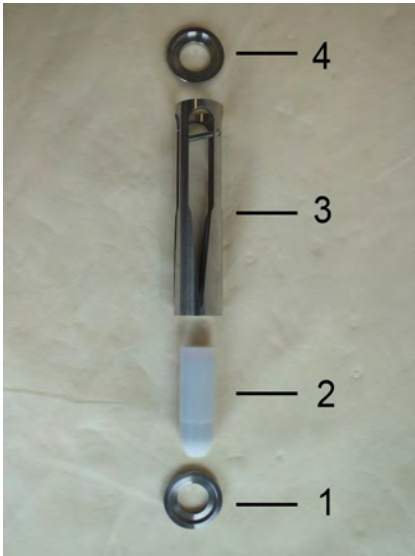

Fig. 39: Inner parts DWM-L
- 5.** ➤ The inner parts of the flow monitor consist of the centering disc (inlet) (Fig. 39/1), float (Fig. 39/2), slot nozzle (Fig. 39/3) and centering disc (outlet) (Fig. 39/4).